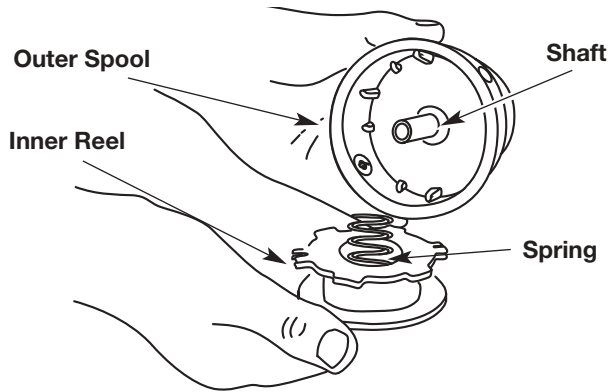

Fig. 13
2. Remove the inner reel from the outer spool (Fig. 13).
3. Remove spring from the inner reel (Fig. 13).
2. Remove the old inner reel from the outer spool (Fig. 13).
3. Remove the spring from the old inner reel (Fig. 13). Use a clean cloth to clean the spring, shaft, and inner surface of the outer spool.